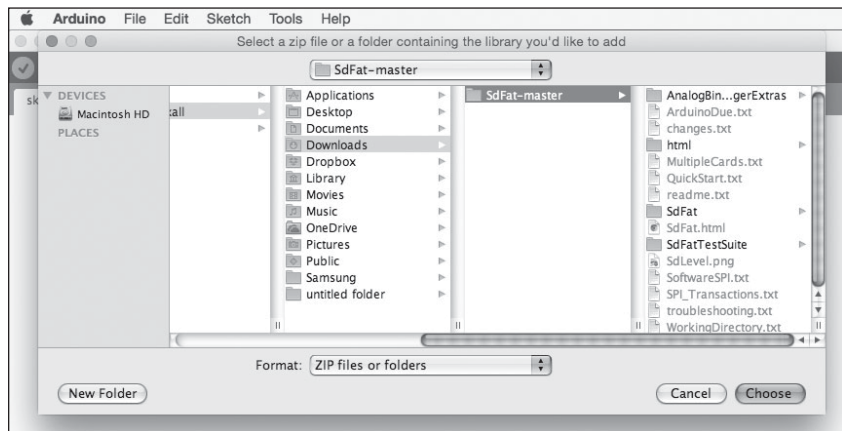

Figure 8-18: Choosing the library folder
3. When the dialog shown in Figure 8-18 appears, select the *SdFat-master* folder located in the *Downloads* folder and click **Choose**.